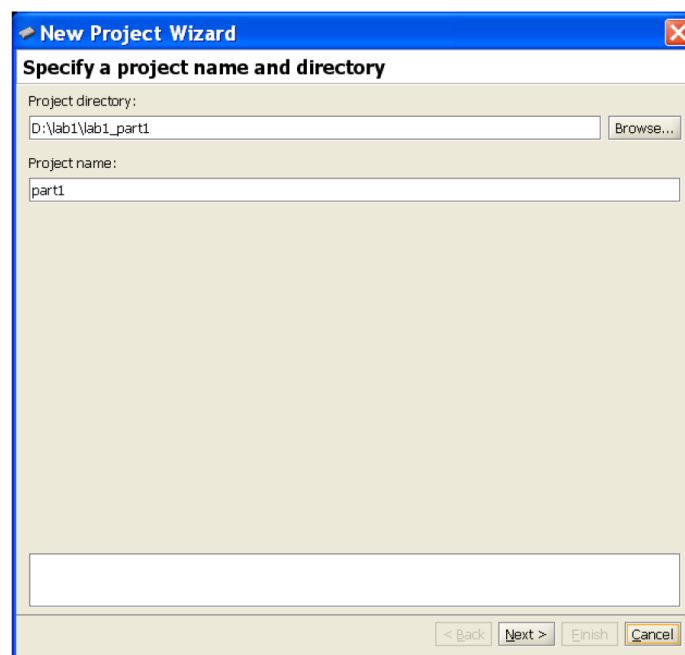
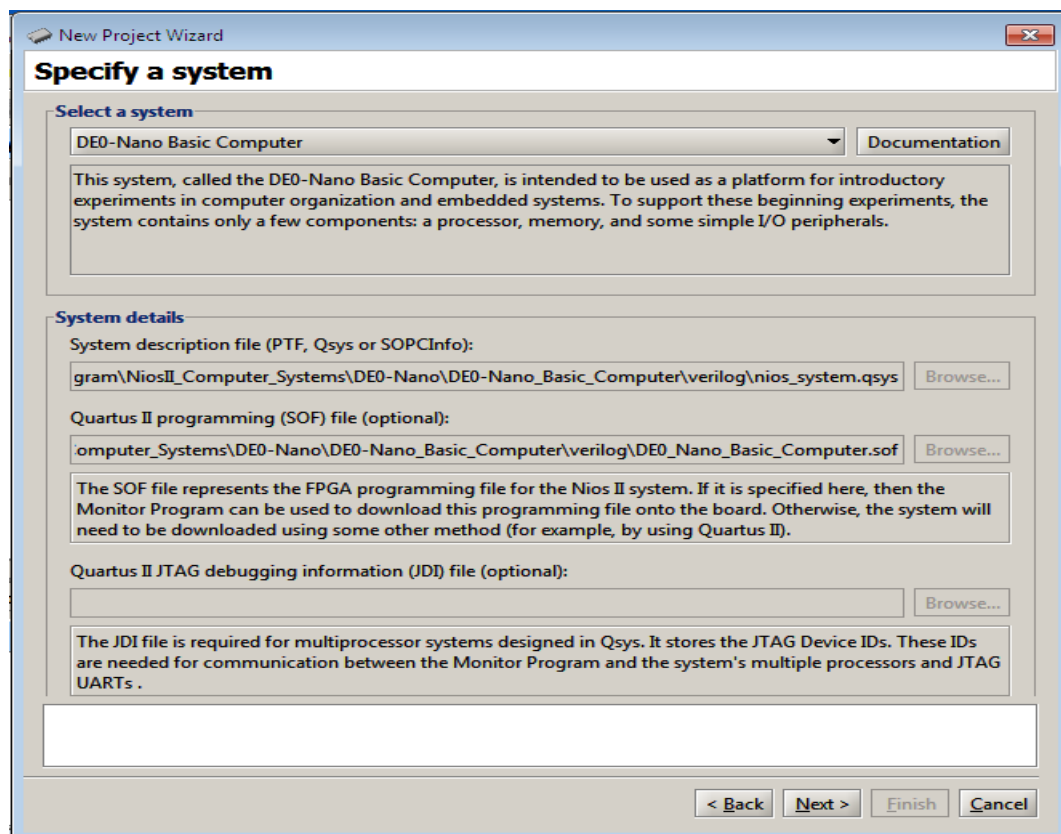
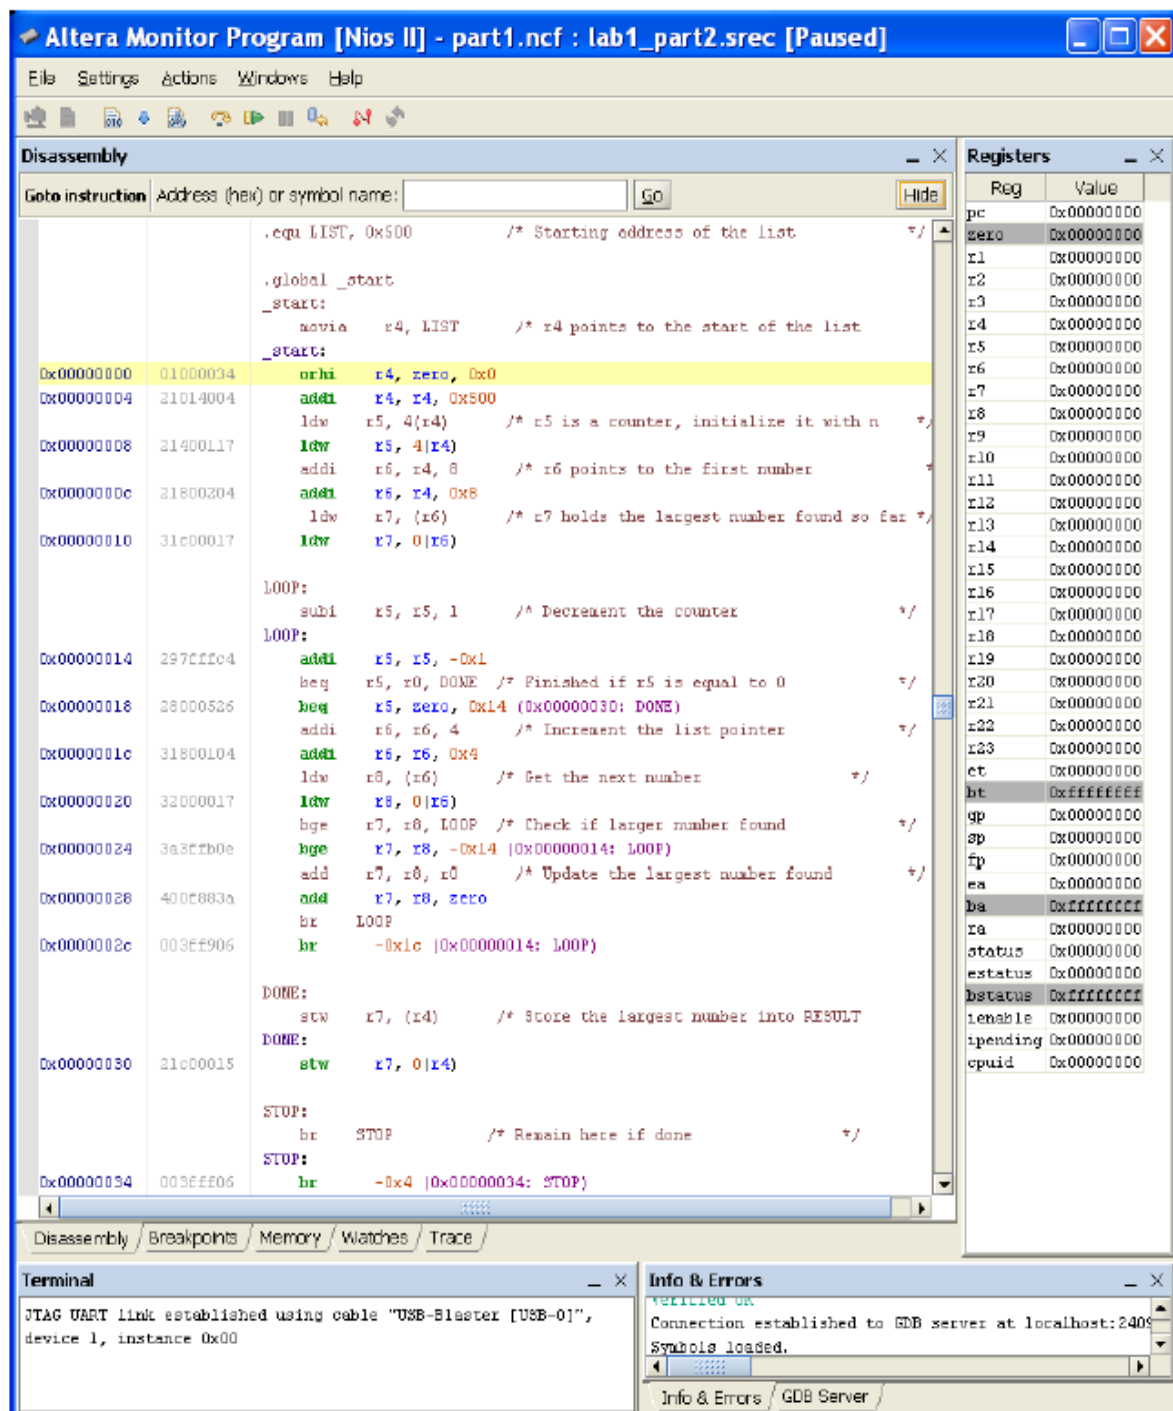

Figure 3: Specify the directory and the name of the project.
Figure 4: Specification of the system.
Figure 14: The disassembled view of the program in Figure 10.
To run an application program it is necessary to create a new project. Select **File > New Project** to reach the window in Figure 3. Give the project a name and indicate the directory for the project;
we have chosen the project name **part1** in the directory **lab1\_part1**, as indicated in Figure 3. Click **Next**, to get the window in Figure 4.
5. The Monitor Program will display the disassembled view of the code loaded in the memory, as indicated in Figure 14. Note that the pseudoinstruction `movia` in the original program has been replaced with two machine instructions, `orhi` and `addi`, which load the 32-bit address `LIST` into register `r4` in two 16-bit parts (because an immediate operand value is restricted to 16 bits). Examine the disassembled code to see the difference in comparison with the original source program. Make sure that you understand the meaning of each instruction. Observe also that your program was loaded into memory locations with the starting address `zero`. These addresses correspond to the SDRAM memory, which was selected when specifying the system parameters. The DE0-Nano Basic Computer has two more memories which are the *on-chip memory* (i.e. the memory on the FPGA chip) and the *SRAM chip* on the DE0-Nano board. See the document *Basic Computer System for Altera DE0-Nano Board* (Altera [2014]) for full information. This document can be accessed by clicking on the *Documentation* button in Figure 4.
6. Run the program. When the program is running, you will not be able to see any changes such as the contents of registers or memory locations in the monitor windows, because the monitor program cannot communicate with the processor system on the DE0-Nano board. But, if you stop the program the present state of these components will be displayed. Do so and observe that the program has stopped executing at the last branch instruction which is loaded in the memory location `0x34`. Note that the largest number found in the sample list is 8 as indicated by the contents of register `r7`. This value is also stored in the memory location `0x500`, which can be seen by opening the *Memory tab* of the monitor window (in Figure 14).